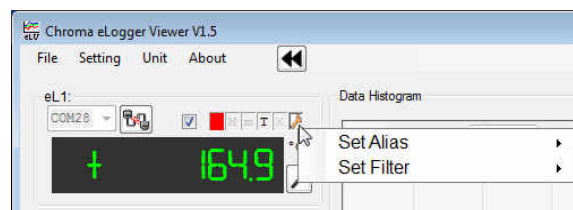

Figure 2-9 Tool box setting
**Tool Box:** It includes three significant settings in this selection as Figure 2-9 shown.